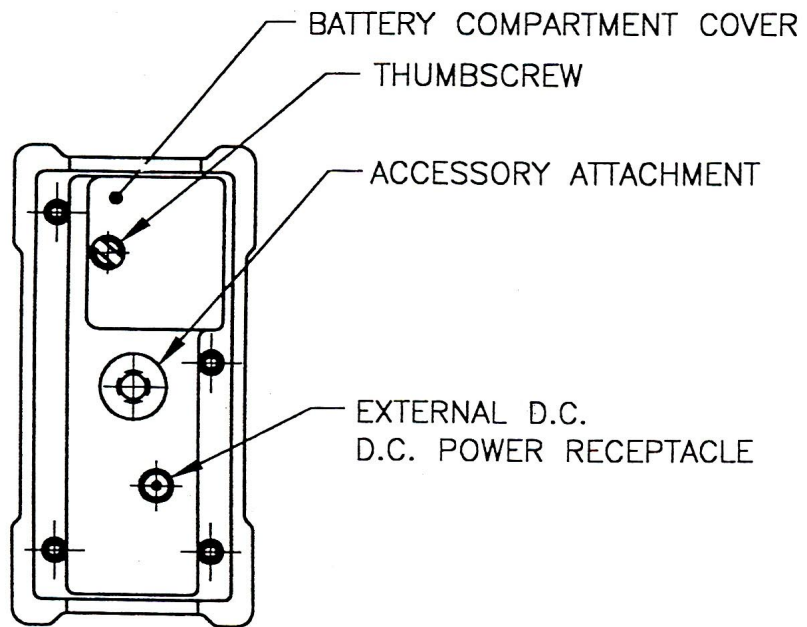

Figure 3 - BOTTOM BASE (MODEL pDR-1000AN)
- Tripod mounted. The unit can be attached to any standard tripod using the threaded bushing on the bottom of the monitor (see Figure 3).
Refer to Figures 3 (for model *pDR-1000AN*) or 4 (for model *pDR-1200*). The base of the *personalDataRAM* contains the following: a) internal battery compartment cover, b) external DC power input receptacle, and c) threaded bushing for the attachment of optional battery pack, tripod, or other mounting/support hardware.
- Loosen thumbscrew that secures the battery compartment cover (see Figure 3 or 4), and remove that cover.
A universal line voltage AC to DC power supply (Thermo Electron model *pDR-AC*) is provided as standard accessory with the *personalDataRAM*. This power supply can be used with any line with a voltage between 100 and 240 VAC (50 to 60 Hz). When using that power supply, its output plug should be inserted into the external DC receptacle at the base of the *personalDataRAM* (see Figure 3 or 4). Insertion of that connector automatically disables the internal 9V battery of the instrument. Removal of the *pDR-AC* plug from the instrument automatically re-connects the internal 9V battery.